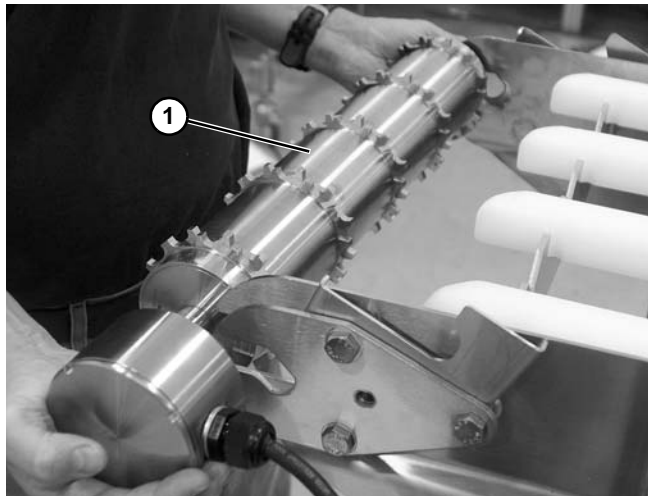

Figure 81
4. Remove drive assembly (Figure 81, item 1) from conveyor.